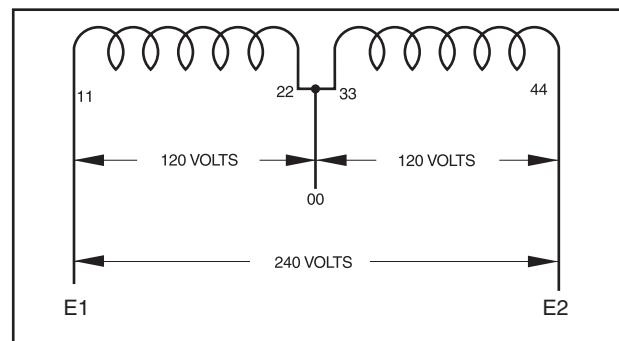

Figure 5. Typical 1-Phase Stator Windings
1. Testing 1-Phase Stators (Figure 5)
- b. Disconnect Stator Leads 22 and 33 from the neutral block (00).